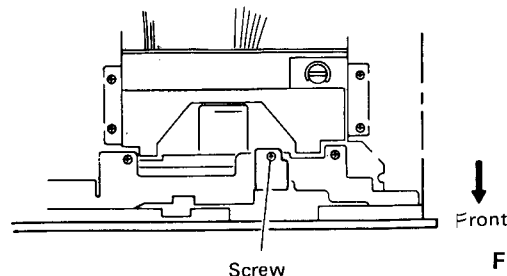

Fig. 15
1. Remove a screw fastening the bracket of mechanical ass'y. (See Fig. 15 of page 10)
2. Remove 2 screws ① fastening the front bracket. (upper side)
3. Remove a screw ② fastening the front bracket. (right side)
4. Remove 4 screws ③ fastening the amp chassis. (2 screws each)